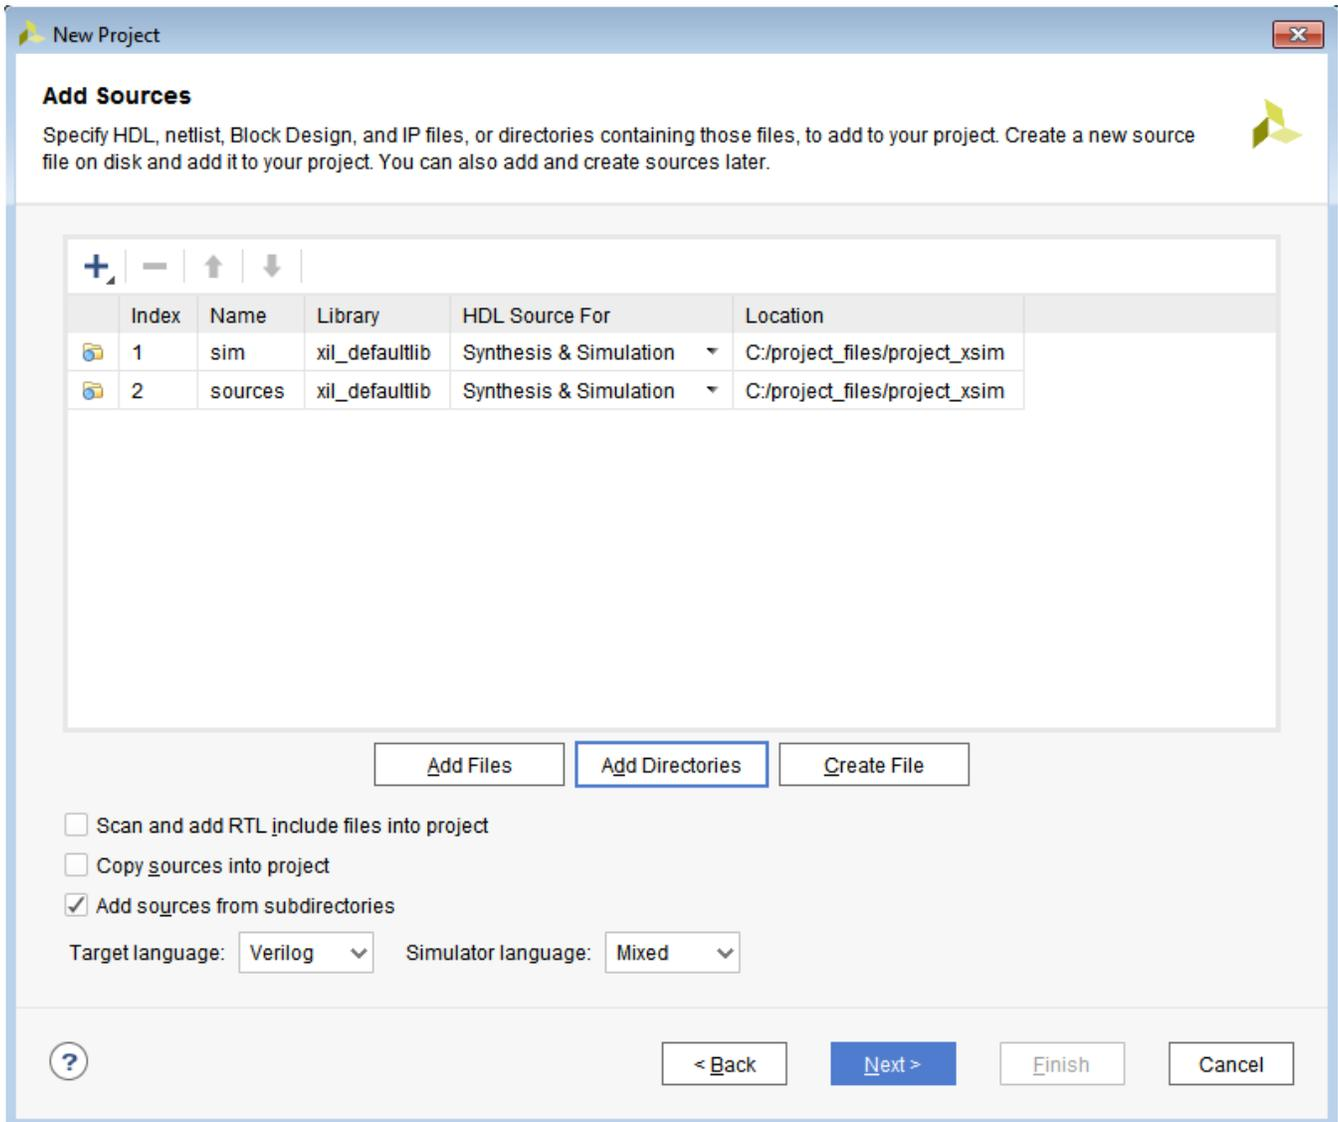

Figure 5: Add Sources
8. Set the **Simulator Language** to **Mixed** as seen in Figure 5.